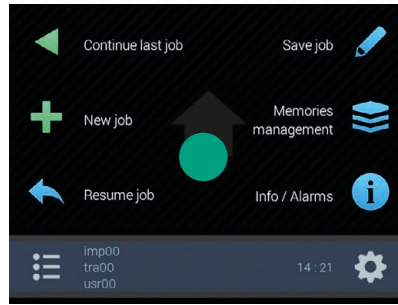

Fig. 257
- Switch the monitor on (par 1.2). After self-diagnosis, the monitor displays screen "Home" (Fig. 257).